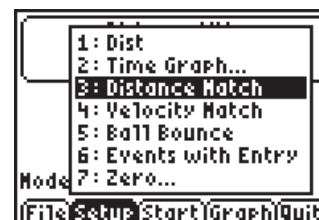

Figure 4
- You will be returned to the main screen of the EasyData App. The App senses the CBR 2 and starts giving a distance reading across the top of the screen. Select **Setup** and choose **3:Distance Match**. **See Figure 4.**